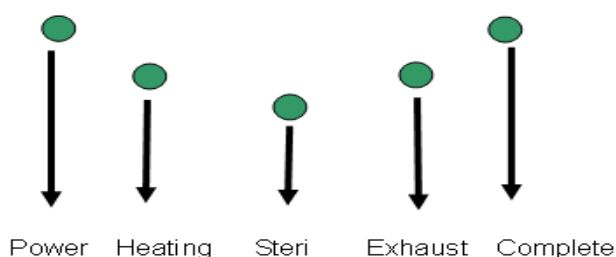

Figure 17
G.4 Press the START Button  and the sterilizer will automatically run through the selected program. The current progress of the sterilization cycle is indicated by the illuminated LED on the Process Status Indicator. (Figure 17)